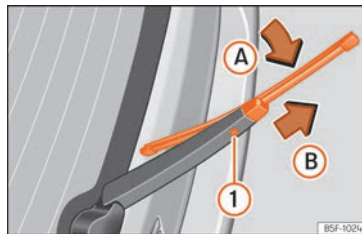

Fig. 44 Changing the rear wiper blade
- Turn the blade slightly »» Fig. 44 (arrow ❸).
- Hold down the release button ❶ while gently pulling the blade in the direction of arrow ❷.
- Insert a new blade of the **same length and type** in the rear wiper arm in the opposite direction to the arrow ❷ and hook into place button ❶.